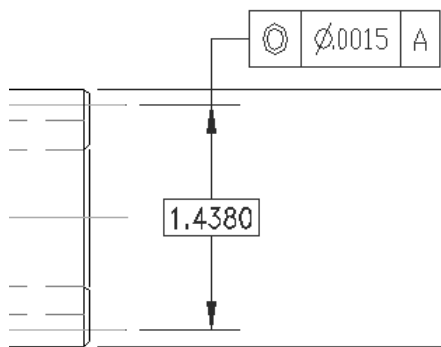

**Figure 15-32:** A Basic dimension.
- ♦ **Basic dimensions** place the dimension in a box, as shown in Figure 15-32.